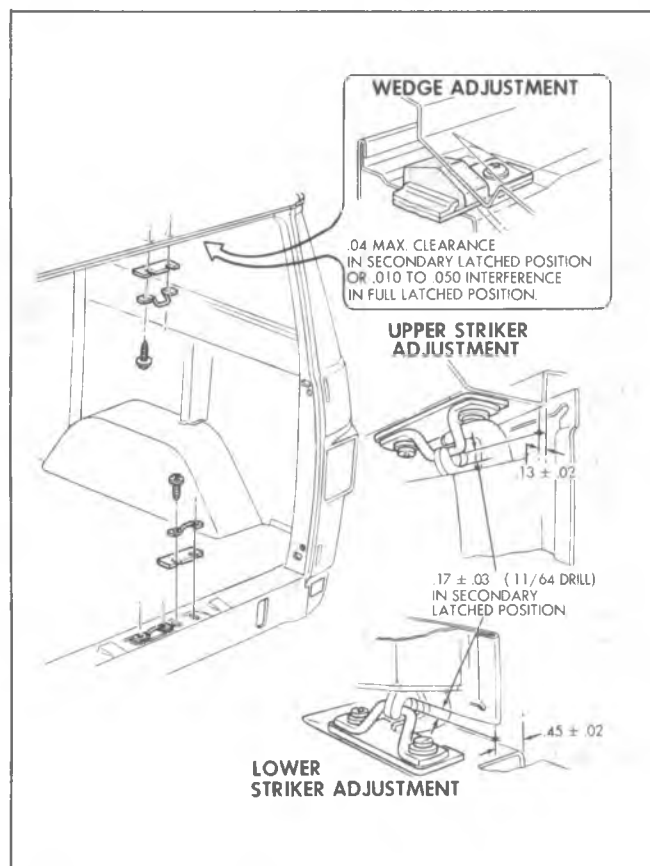

Fig. 2D-130--Rear Door Striker and Wedge Adjustment
1. Adjust striker by adding or deleting shims as necessary to obtain dimension as shown in figure 2D-130. This dimension can be checked by applying grease to the latch and slowly closing door until striker fully engages latch. Then open door and measure from grease impression to bottom of latch slot. Torque to specifications.
2. Adjust door wedge by adding or deleting shims as necessary so that wedge contact ramp on body when door is closed. See figure 2D-130.
2. Remove adjuster from seat. See figure 2D-131.